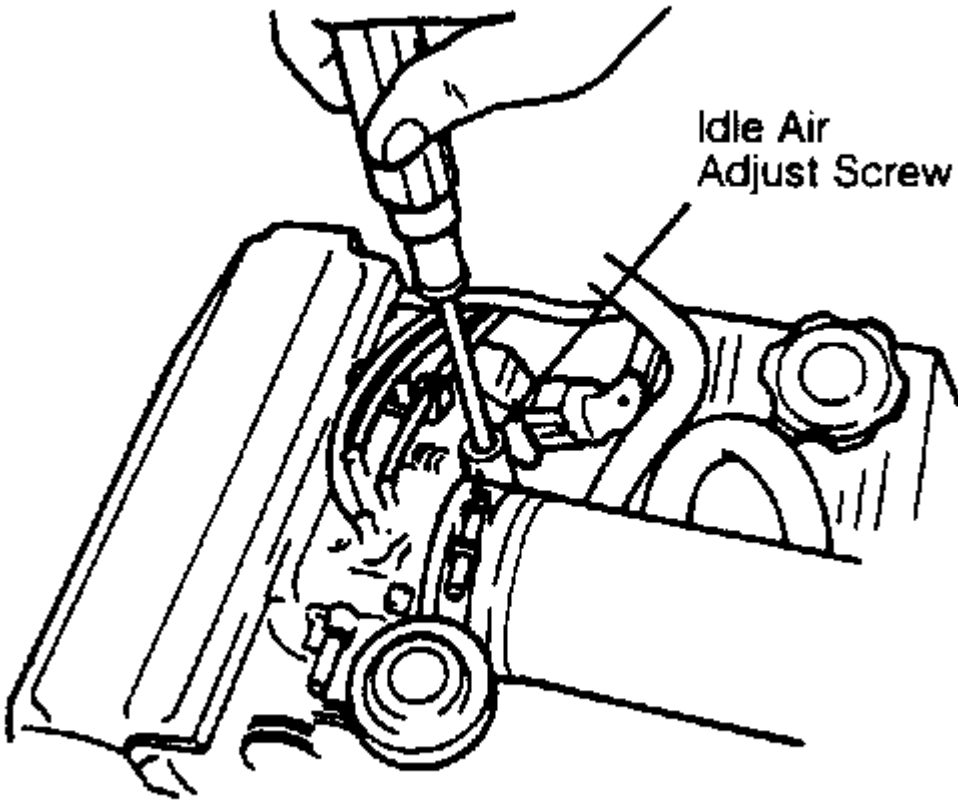

Fig. 2: Locating Idle Air Adjust Screw
- Locate idle speed control by-pass air (ISC-BPA) valve on intake manifold. Remove cap, and adjust idle speed to specification by turning idle air adjust screw on ISC-BPA valve. See Fig. 2 . Remove jumper wire.